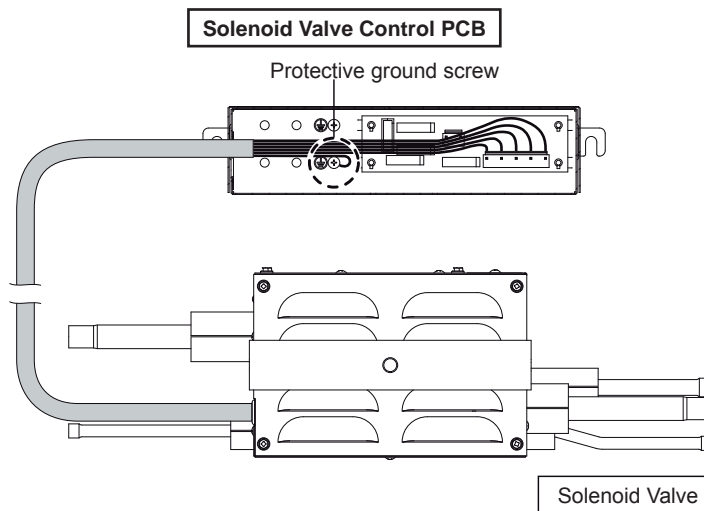

Fig. 6-1 Connection
- Connect the 9P connector coming from the solenoid valve kit through the power inlet of the PAW-VP-RTC5B-VRF to the 9P connector (red) of the Solenoid Valve Control PCB (sold separately) (Fig. 6-1).